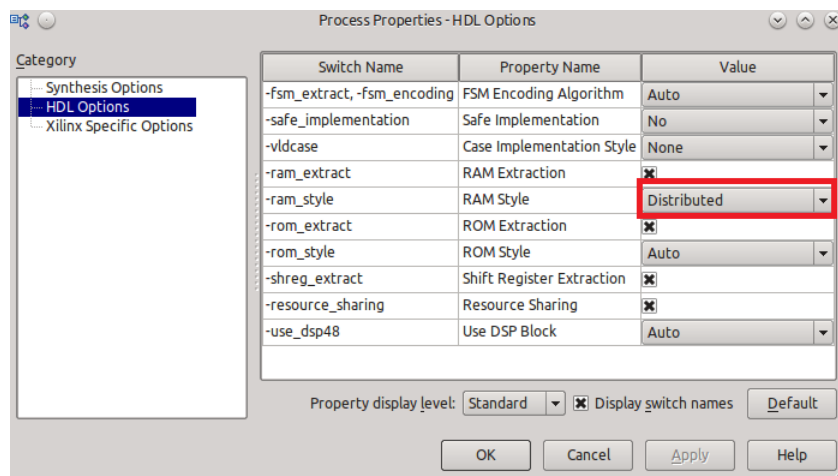

Figure 4.9: DUT RAM Style
- (c) In the Preprocess Properties window, select HDL Options and select "Distributed" for the RAM Style property (See Fig 4.9).